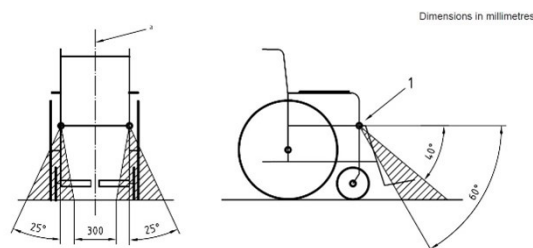

Figure 1: Preferred angles for front tie-down straps.
1. The pelvic belt should be worn low across the front of the pelvis, so that the angle of the pelvic belt is within the preferred zone of 30° to 75° to the horizontal, as shown in figure 1.